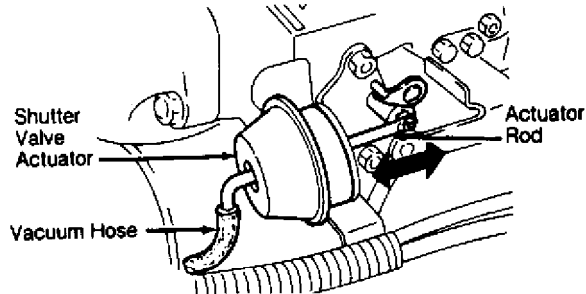
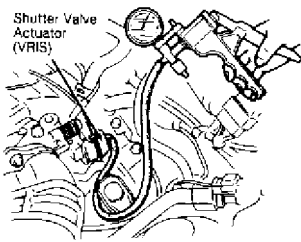

Fig. 9: Locating Shutter Valve Actuator & Rod
Fig. 14: Testing Shutter Valve Actuator (MPV 3.0L, MX-3 DOHC, MX-6 2.5L & 626 2.5L)
Connect tachometer to IG terminal of diagnostic connector. See Fig. 8. Start engine, and operate it at idle. Ensure shutter valve actuator rod is retracted at idle. See Fig. 9. Gradually increase engine speed to 5000 RPM and ensure actuator rod extends. If necessary, check Variable Inertia Charging System (VICS) components.
Start engine, and operate it at idle. Ensure shutter valve actuator rod is retracted at idle. See Fig. 9. Actuator rod should extend when engine is started, for 5 seconds after engine is started and when engine is operating at 1100-4800 RPM with throttle opened in "D" range. If necessary, check Variable Inertia Charging System (VICS) components.
Disconnect vacuum hose from shutter valve actuator. See Fig. 9. Ensure shutter valve rod moves in and out smoothly. Place finger over hose. Ensure vacuum is present at idle. Reconnect vacuum hose on actuator and ensure rod retracts. Replace as necessary.
1) Remove shutter valve actuator protector cover. Remove "C" clip. Disconnect shutter valve actuator vacuum hose. See Fig. 9. Remove shutter valve actuator.
2) Apply vacuum to shutter valve actuator. See Fig. 14. Ensure rod retracts into actuator. Replace shutter valve actuator if rod does not retract. With shutter valve actuator removed, ensure
Disconnect vacuum hose from shutter valve actuators No. 1 and 2. See Fig. 9 or 13. Connect vacuum pump to actuator. See Fig. 14. Apply vacuum to each actuator separately and verify shutter valve rod retracts. Replace actuator as necessary.